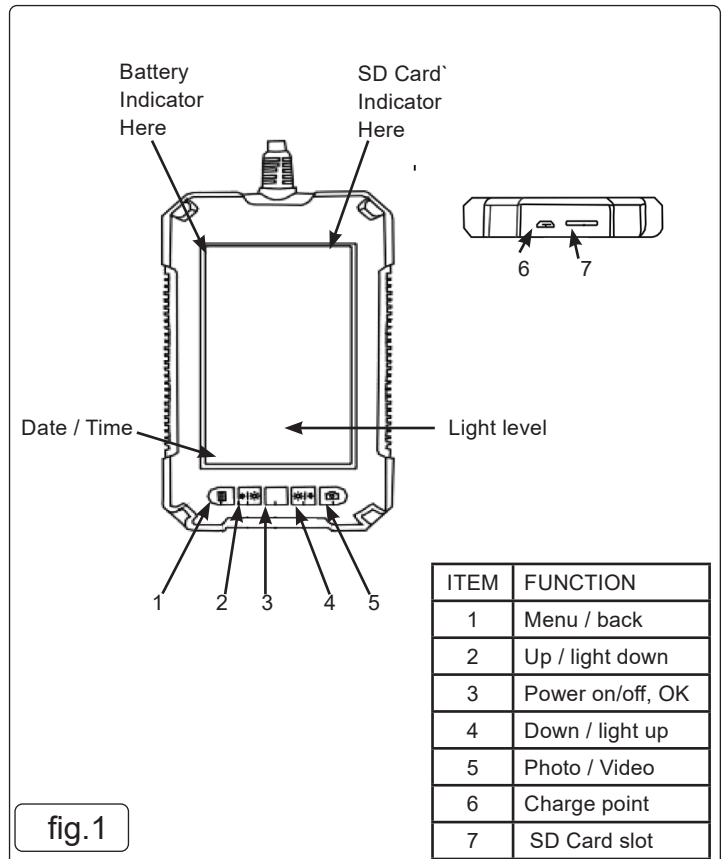

fig.1
- 4.1. Connect the USB cable (supplied) to the unit (fig.1) and the other end to a USB power source.
- 4.2. While charging, the red LED on the lower left corner of the front face will light (fig.1). Once charged, the light will go out.
NOTE: During operation, a battery state symbol will show in the top left hand corner of the display screen (fig.1).